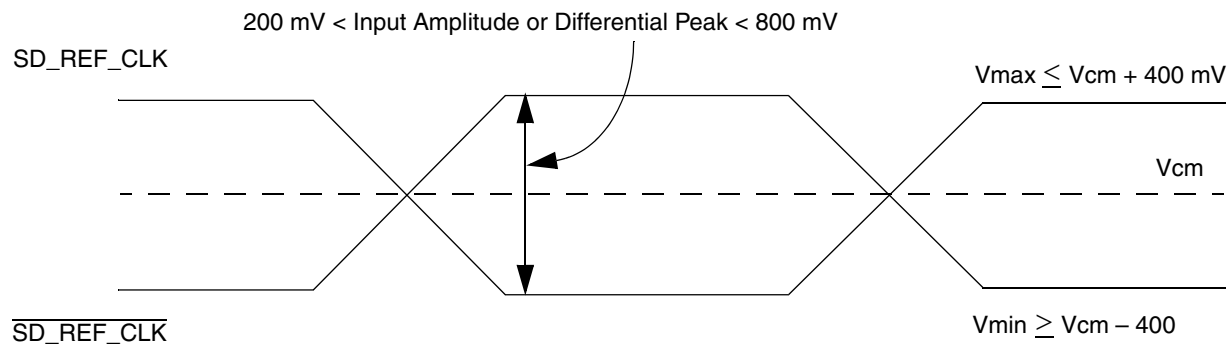

Figure 53. Differential Reference Clock Input DC Requirements (External AC-Coupled)
- For **external AC-coupled** connection, there is no common mode voltage requirement for the clock driver. Since the external AC-coupling capacitor blocks the DC level, the clock driver and the SerDes reference clock receiver operate in different command mode voltages. The SerDes reference clock receiver in this connection scheme has its common mode voltage set to SGND_SRDSn . Each signal wire of the differential inputs is allowed to swing below and above the command mode voltage (SGND_SRDSn). Figure 53 shows the SerDes reference clock input requirement for AC-coupled connection scheme.